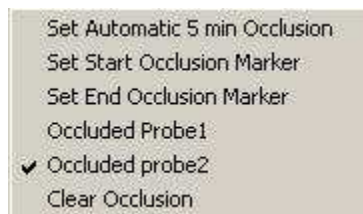

Figure 32 - Occlusion Popup Menu
2. Point the mouse at the beginning of the occlusion area. Right click on the mouse will open a popup menu (Figure 32). Select “Set Automatic 5 min Occlusion” from the popup menu. A five minutes segment starting at the curser position will be marked in blue. Occlusion markers (blue vertical lines) can be dragged to improve the fit of the occlusion area. Zoom-in to fine tune the location of the occlusion markers.
3. Point the mouse at the beginning of the occlusion. Right click to open a popup menu (Figure 32).
- The designated occluded probe is marked on screen by the blue text: “Occlusion duration:” under the Probe label, on the left side of the screen. The occluded probe is selected automatically by the software. It can be changed by right clicking on the mouse (anywhere in the signal window) and selecting the correct occluded probe (Figure 32).
- To remove the manually added occlusion markings, right click on the mouse and select “Clear Occlusion” (Figure 32).